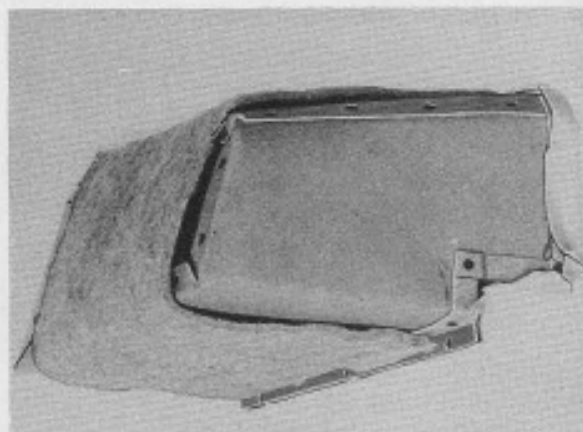

Fig. 5.
3. Cubby Boxes - The fitting of felts UW-1928 and UW-1929 necessitates removal of both cubby boxes. Remove the six 2BA cubby box securing screws, three of which secure the top of the box by passing through the front edge, these are easily seen inside the box. The remaining three securing screws are not visible but pass through the lower front edge of the box behind the fascia board. Repeat the process for removal of the other cubby box. Using 'Bostik' A. stick felt UW-1928 to cubby box (LH) UB-1235 and felt UW-1929 to box (RH) UB-1233, commencing from the top surface of each box and wrapping down the back and along the underside, ensuring that all edges adhere securely. Fig. 5. shows the felts in position. It should be noted that the felts are handed and therefore on L.H. drive cars the larger felt, UW-1929 is fitted to the box (LH) UB-1239 and the smaller felt UW-1928 is fitted to the box (RH) UB-1237.